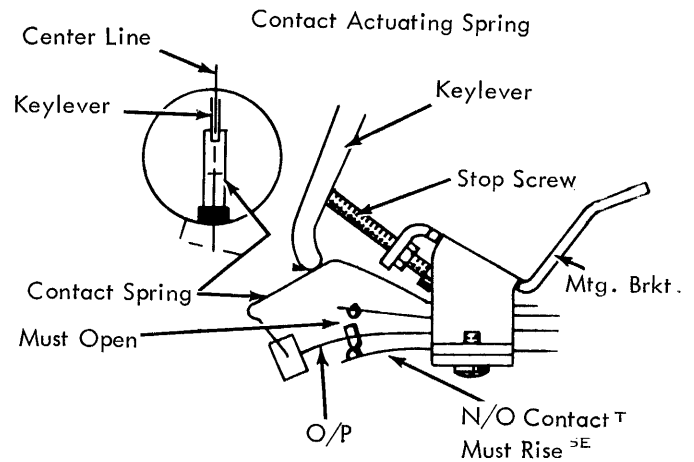

FIGURE 49. Keylever Contact Adjustment
3. Contact Assembly Position, unit installed (Fig. 49)